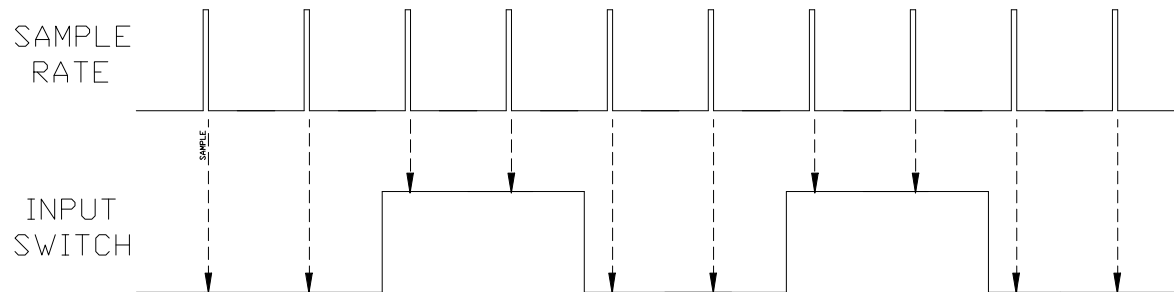

Figure 6-3
The SIP-CB does not inspect the state of the inputs 100% of the time; otherwise it wouldn’t have time to perform any other functions. Rather the SIP-CB briefly inspects (“*samples*”) the condition of the lines one or more times each second. You can configure the SIP-CB to take as few as one sample per second or as many as 50 samples per second. The 8 inputs are divided into two groups, each with its own sampling rate. The sampling process is illustrated in Figure 6-3.
- For best accuracy set the sample rate so that there are at least 2 samples within the shortest part of the input signal. Reference Fig. 6-3 for a good example.